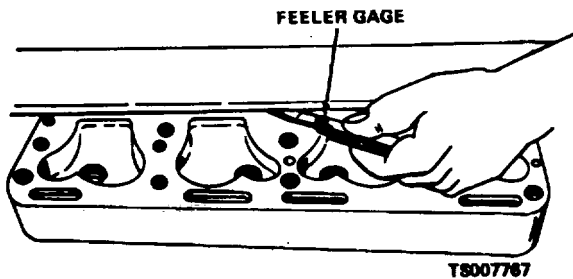

Figure 9-3. Checking Cylinder Head Flatness Lengthwise.
c. Make sure that gasket contact surfaces on the head and block are clean, smooth and flat. See figure 9-3.